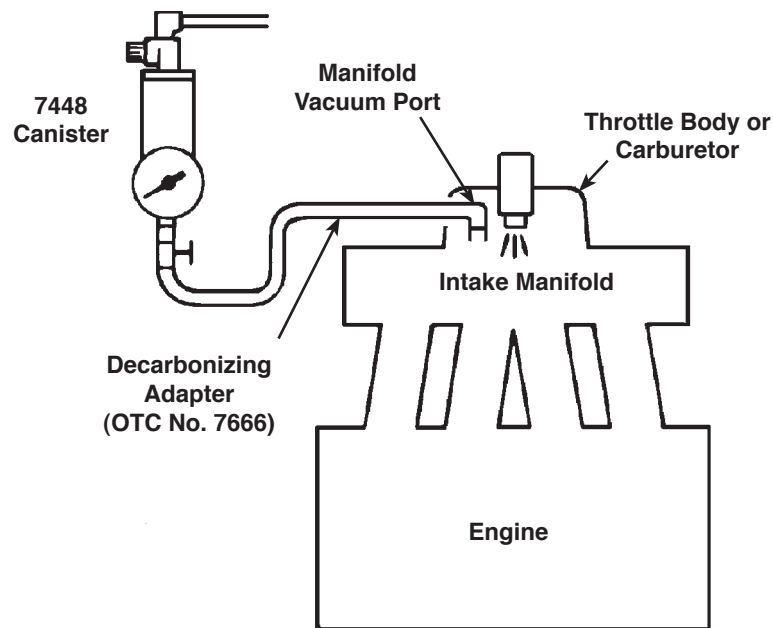

Figure 2
8. Connect the decarbonizer hose (with adapter) to the manifold vacuum port. See Figure 2.